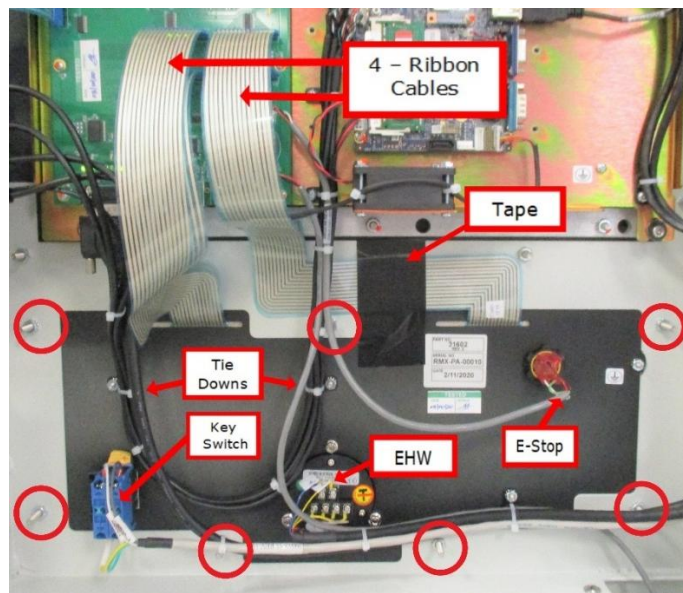

Figure 5.1.2.2
5. Disconnect the tape, tie downs, cables to the E-Stop switch, EHW, and key switch as shown in figure 5.1.2.2.
6. Support the run panel from the front and remove the seven bolts circled as shown in figure 5.1.2.2.